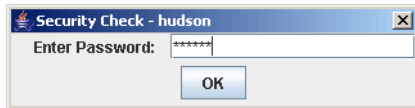

Figure 21-50 SANsurfer - Security Check
5. Enter the SANsurfer password (Figure 21-50 on page 513) (the default password is config) and click **OK**.